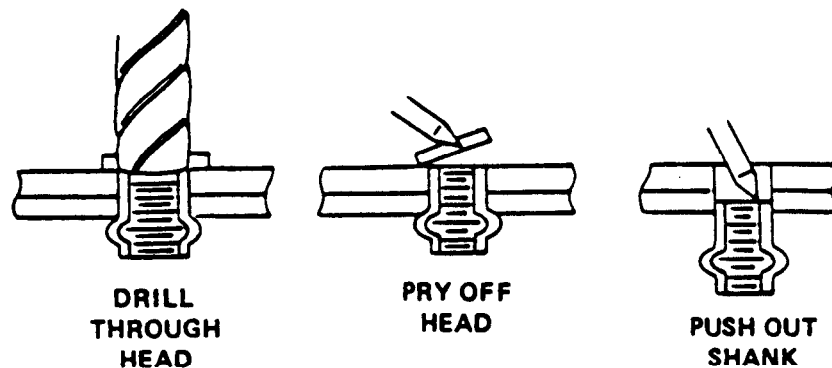

Figure 3-10. Removing Rivnuts.
**3-9. General Repair Procedures (cont).****(2) Removal (Figure 3-10)****WARNING**